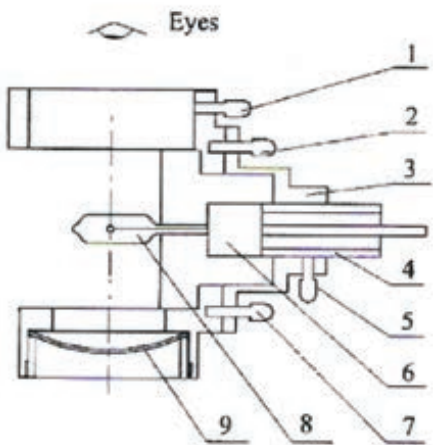

Fig7. Illumination group
- Open the side-door on the right of the instrument (14), unscrew the (1) as Fig. 7, move the whole set of the illumination set up and down. On the screen, the glower's image will change from illegibility to clear.
- When the filament is almost clear (it needn't be too clear) and is on the center of the screen, please fix the screw (1) and put on the lens. All the re-adjust is completed.
• Method of replacing the bulb (see fig. 7)
- Unscrew the screw (1) and take out the whole illumination set.
- Take out the halogen bulb (8)
- Test by eyes from the top to see whether the glower's image by the concave reflective mirror (9) and itself is overlap, if not please do as:
- Draw the lamp holder (4) side to side. Make the glower and its image overlap at the right-and-left way. Then screw the screw (5).
- Unscrew the screw (2) and (7). Make the adjusting shelf (3) to be the vertical way of the paper, and then move it parallel or obliquely. Until the glower filament and its image overlap at the vertical way on the paper. Then screw the screws (2) and (7).